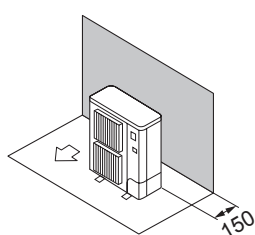

Fig. 2-7
- (1) Obstacles at rear only (Fig. 2-7)